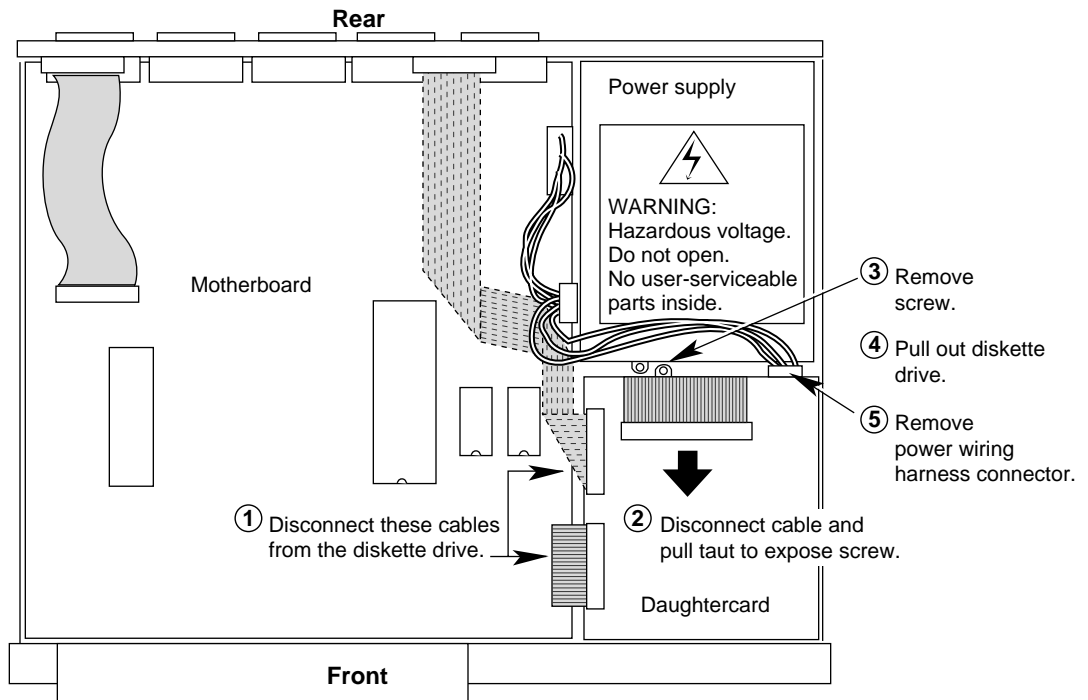

Figure 5-6 Removing the Diskette Drive
- 3 Perform the steps illustrated in Figure 5-6.
- a Disconnect the ribbon cables from the side of the daughtercard mounted on top of the diskette drive bracket (step 1 in Figure 5-6). Note the orientation of the cables.
- b Disconnect the cable attached to the rear of the daughtercard. Pull it toward you to expose the mounting screw that fastens the diskette drive bracket to the bottom of the chassis (step 2 in Figure 5-6).
- c Remove the mounting screw (step 3 in Figure 5-6).
- d Slide the bracket toward the rear and lift it and the diskette drive out of the chassis (step 4 in Figure 5-6).
- e Disconnect the power wiring harness from the connector on the rear of the diskette drive (step 5 in Figure 5-6).